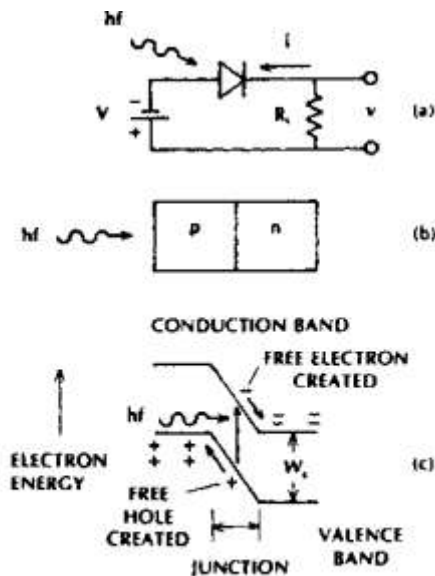

Figure 7-4 Semiconductor junction photodiode. (a) Reverse-biased diode. (b) pn junction. (c) Energy-level diagram.
- The **simple pn photodiode**, drawn in Fig. 7-4, illustrates the basic detection mechanism of a junction detector.
- Figure 7-4(c) shows an incident photon being absorbed in the junction after passing through the p layer.